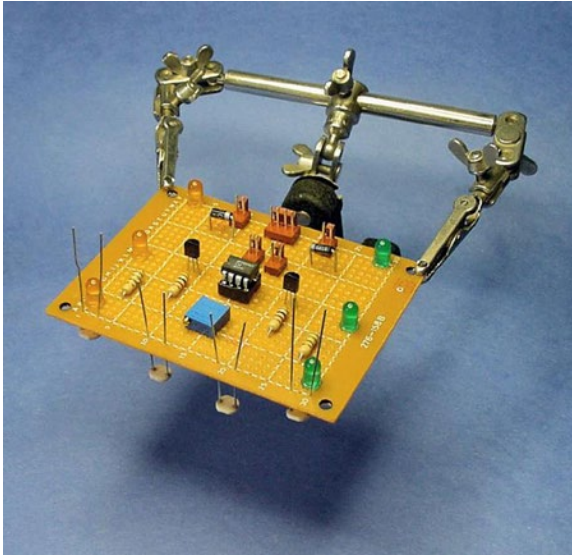

Figure 23-4. *Helping Hands makes laying out a circuit board much easier*
1. Place the board on a Helping Hand tool (see Figure 23-4).